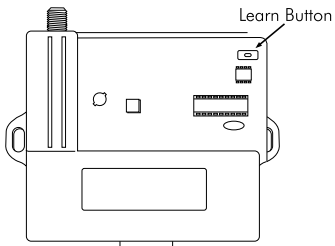

Fig. 2
**Step 2.** You can now see the circuit board and Learn Button. See Fig. 2